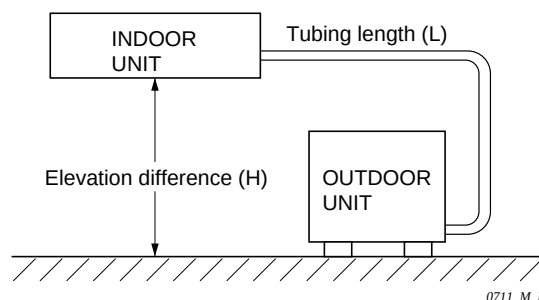

Fig. 1-2
- The length of the refrigerant tubing between the indoor and outdoor units is restricted by the elevation difference between the 2 units. This means that the more “uphill” 1 unit is from the other, the shorter the tubing must be. As you install the tubing, try to make both the tubing length (L) and the elevation (H) as short as possible. Refer to Fig. 1-2 and Table 1-1 for more information.